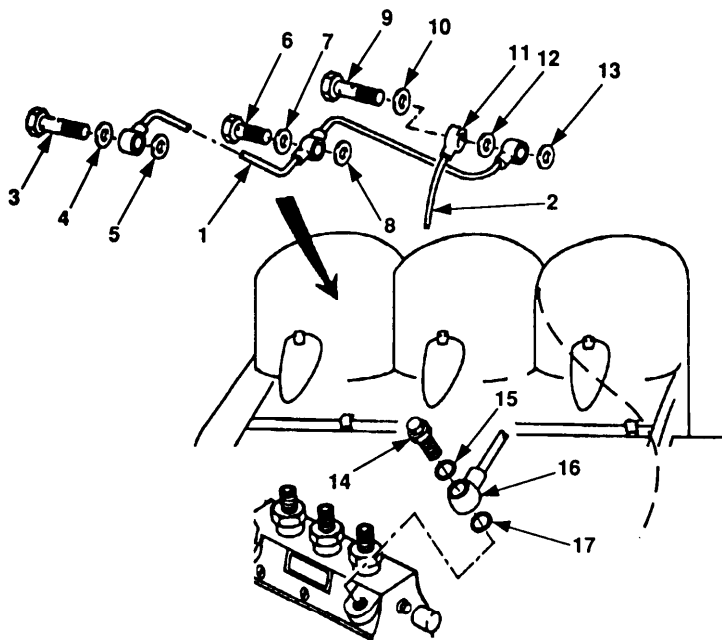

Figure 4-24. Engine Return Lines.
- h. Remove engine return lines (figure 4-24, 1 and 2).
- (1) Remove banjo bolt (3), washer (4), and washer (5).
- b. Install engine return lines (figure 4-24, 1 and 2).
- (1) Install return line (2), washer (17), connector (16), washer (15) and fluid restriction bolt (14).
- (2) Install return line (1), washer (13), washer (12) connector (11), washer (10), and banjo bolt (9).
- (3) Install washer (8), washer (7), and banjo bolt (6).
- (4) Install washer (5), washer (4), and banjo bolt (3).